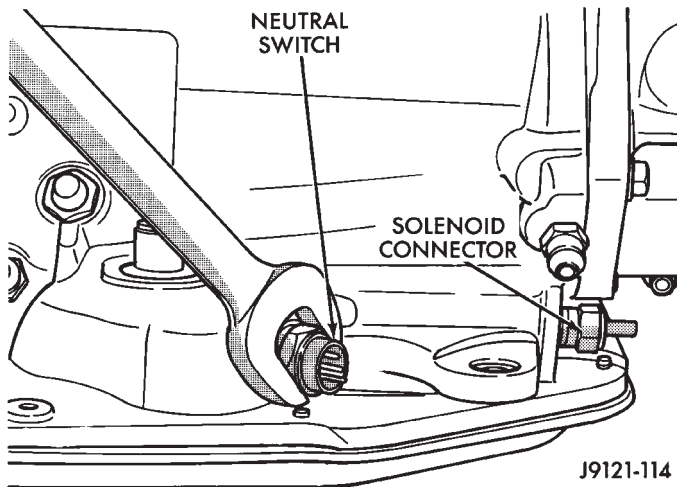

Fig. 9 Park/Neutral Position Switch Removal/Installation
(14) Remove park/neutral position switch (Fig. 9).